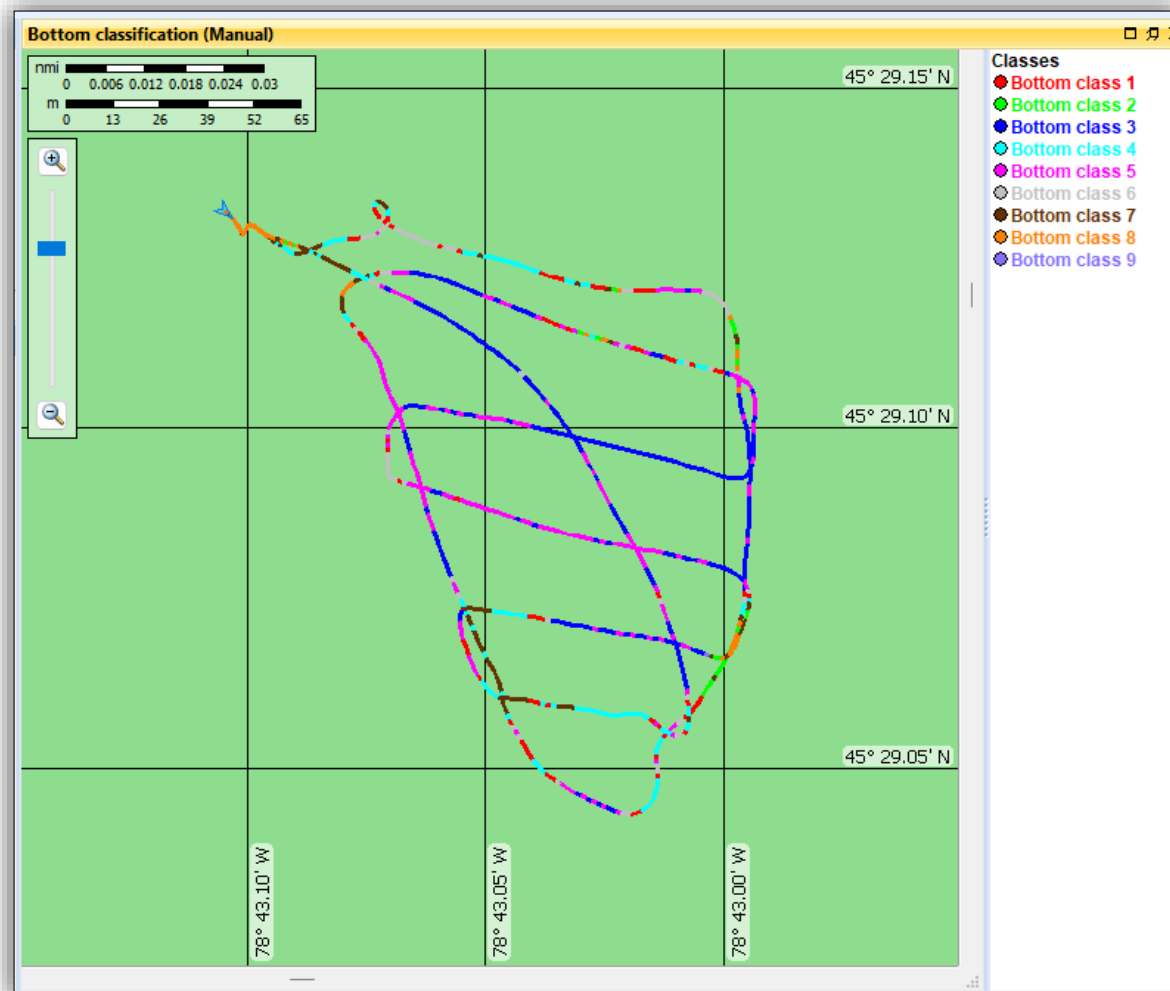

Figure 9. Bottom classification displayed as a cruise track.
17. On the Shortcut (right-click) menu, click Cruise Track (Figure 9).
The colors of classes in Figure 9 have been manually edited to represent those of the colors assigned in the extensive hydroacoustic survey of Scott Lake (see Figure 2).